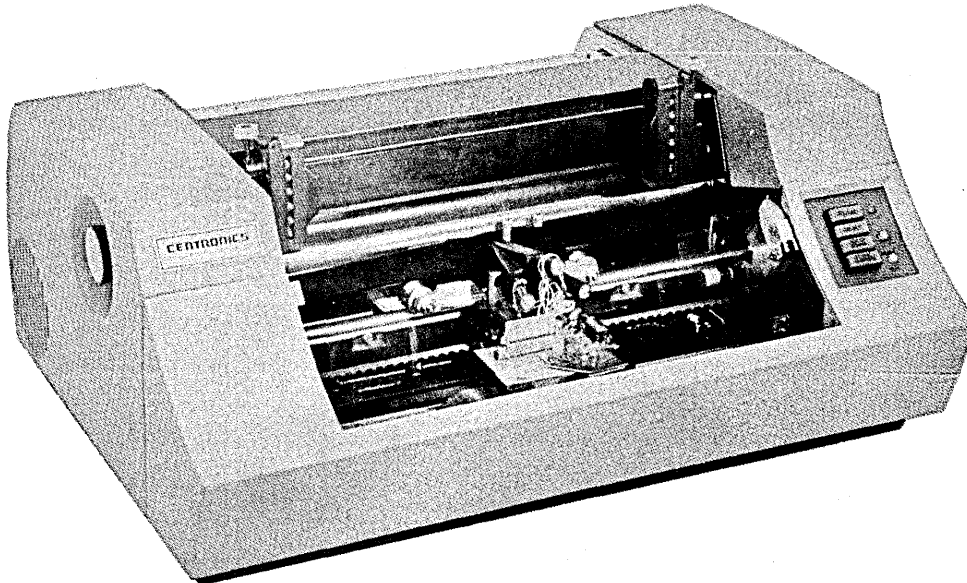

Figure 1-1. MODEL 101A PRINTER (FRONT COVER REMOVED)
1.1 GENERAL DESCRIPTION (FIGURE 1-1)